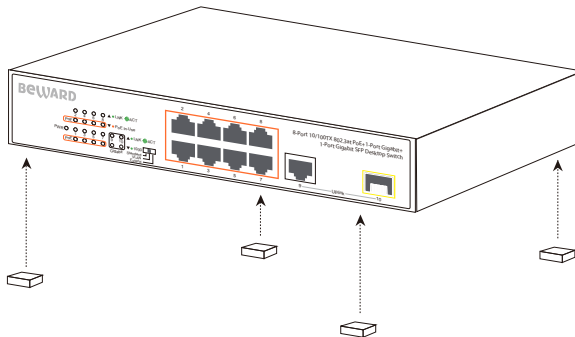

Figure 3-1: Attaching the Rubber Feet to the ST-811HP
Step 1: Attach the rubber feet to the recessed areas on the bottom of the ST-811HP, as shown in Figure 3-1.